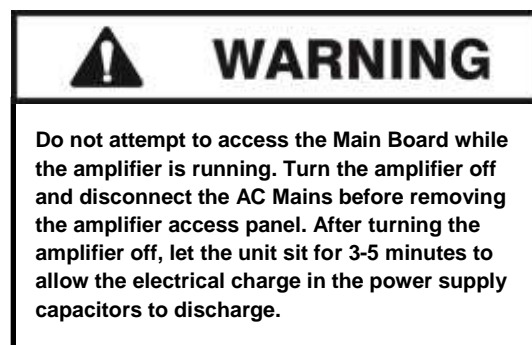

Figure 4.5 – Access Panel Screw Locations
1. On each amplifier, locate the Access Panel as shown in **Figure 4.5**. Make sure that all 8 screws are accessible. Remove the unit from its rack, if necessary.